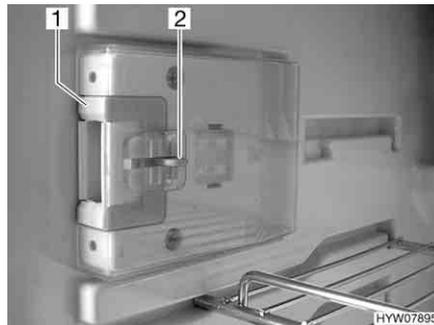
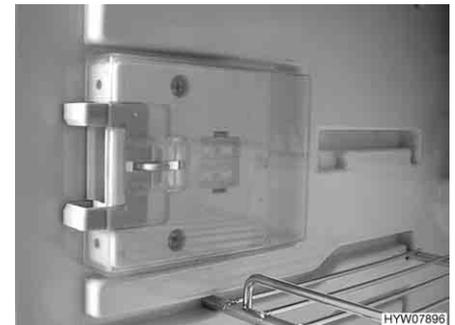

Fig. 136 Locking device in normal position
Fig. 137 Locking device in ventilation position
- Press down the unlocking device (Fig. 136,2).
- Push locking device (Fig. 136,1) forwards (Fig. 137).